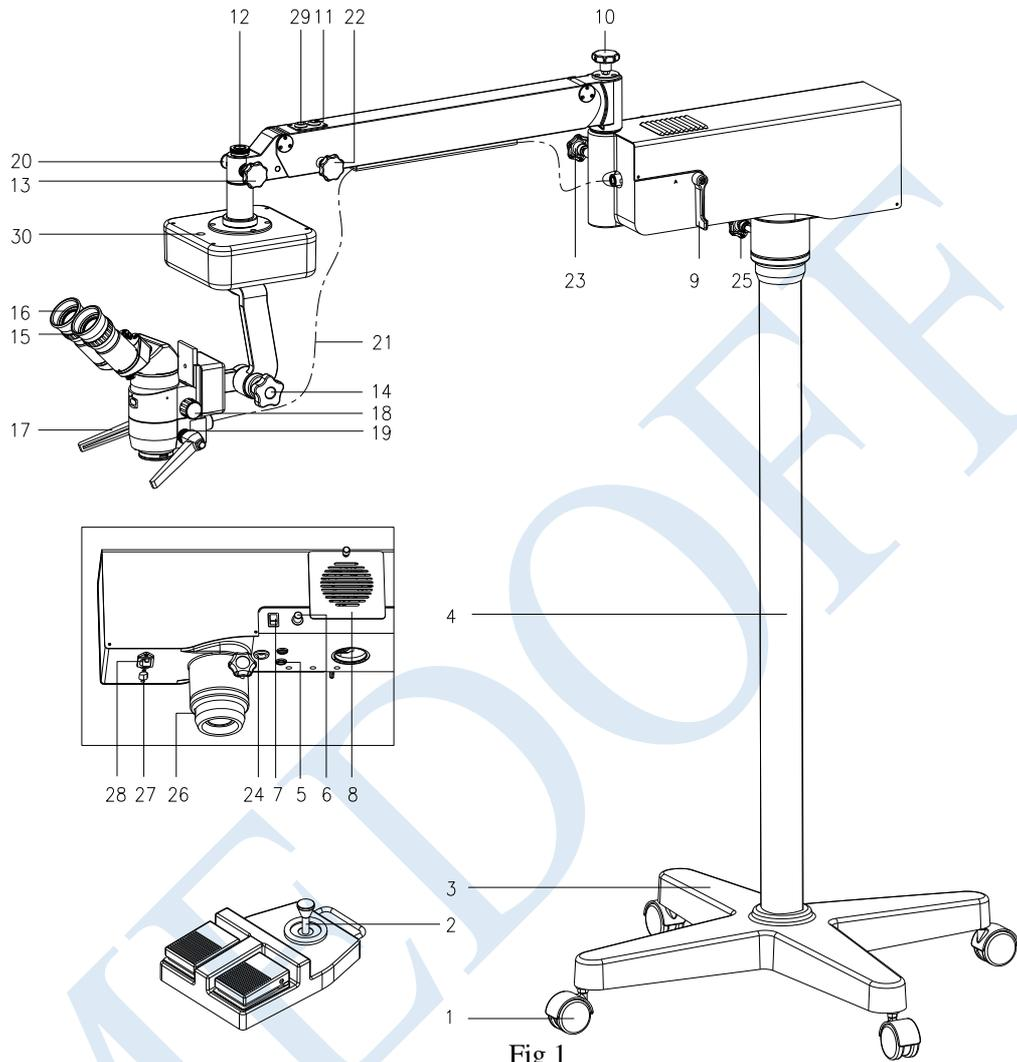
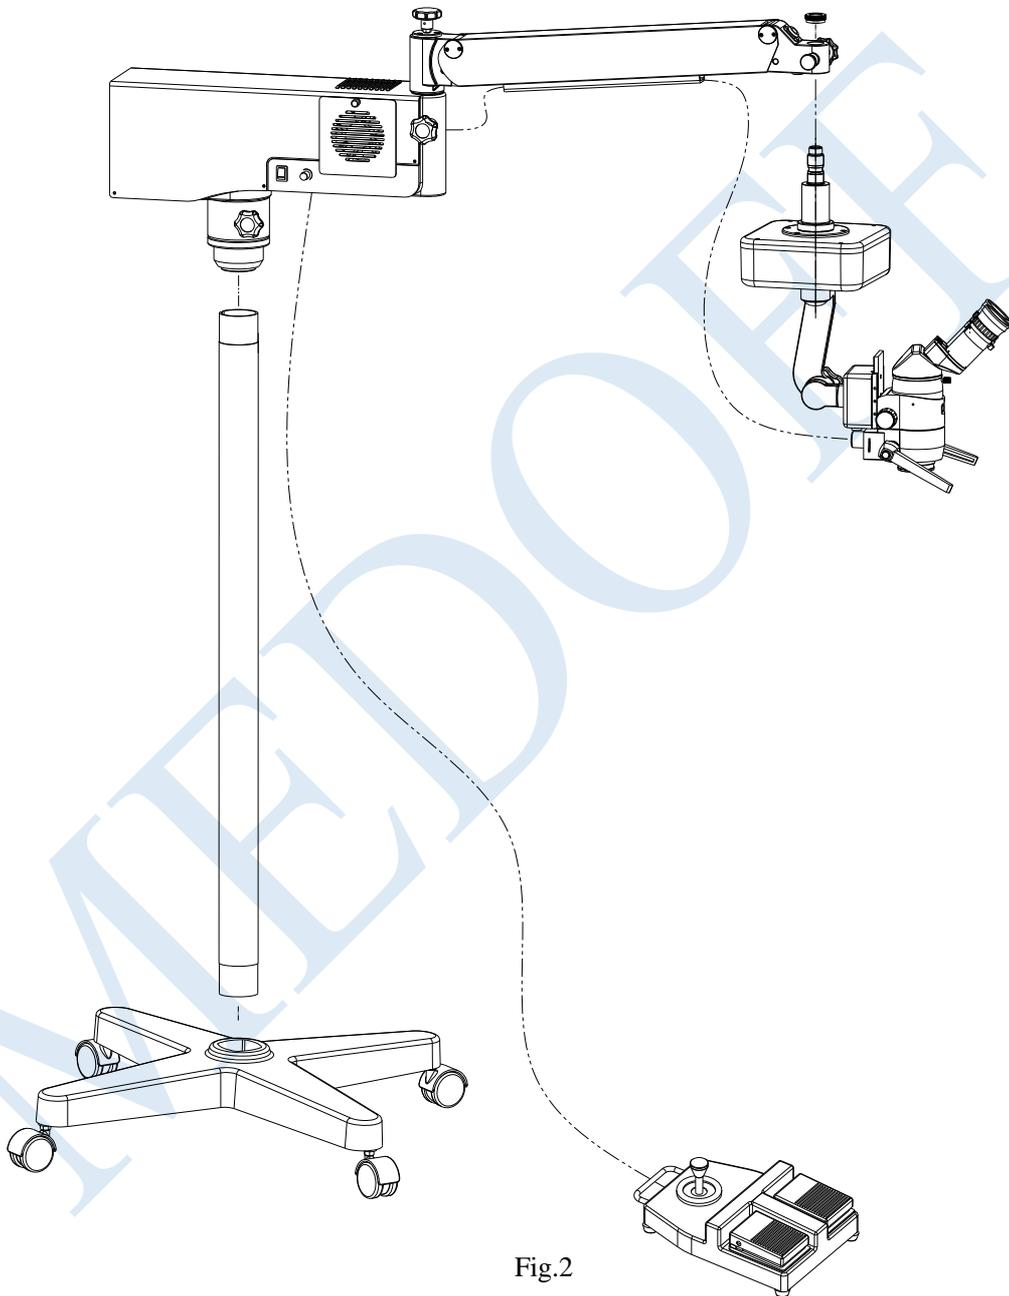

Fig 1
Fig.2
- (1) Please take out the floor stand [3] from the package, lay it on the ground.
- (2) Take out the stand pillar [4], turn out the inner hexagonal bolt and gasket of its end, insert it into the hole of the floor stand [3], and then turn the stand pillar [4] to make the column pin on the base support clip in the groove on the end of stand pillar, assemble in order the unassembled gasket, spring gasket, inner hexagonal blot, and fasten it firmly with 10mm hexagonal wrench (Fig.2).
Take out the light source box while not loosen the tightening bolt of the star knob [22] in order to avoid the small arm rebounding and harm people, set the bottom of the light source box into the stand pillar [4] and insert the inner hexagonal tightening blot [26] into the groove of the end of stand pillar [4] and fasten it firmly with 6mm hexagonal wrench (Fig.2).
Remove the fixing nut [12]. Pull out the safety pin [20] with one hand. Hold the connecting part of microscope with another hand. Insert the shaft into the hole of the arm from the bottom to top. Then release the safety pin [20], it will spring back to the groove on the shaft. Finally fasten the fixing nut [12] (Fig. 2).
Insert the manipulating handle [17] into the holes on the two sides of the microscope holder respectively. The proper handle position should be down to an angle of 40° (as shown in Fig. 1). Then fasten the fixing block circle on the project plane of the two sides of the microscope and make the manipulating handle not to move axial direction (Fig. 2).
Insert one end of the fiber optics [21] into the side hole of the light source box and insert another end into the hole behind the microscope (Fig. 2).
- (1) First connect the 14-pin plug on the foot control switch [2] with the 14-pin socket [24] under the power controlling box (Fig.1). Pay attention to align marks for alignment on both the plug and socket. Then connect power cable with mains outlet and switch on the power switch [7]. Then you can start foot control.
- (2) For fine focusing, step down the left pedal of the foot control switch, the microscope